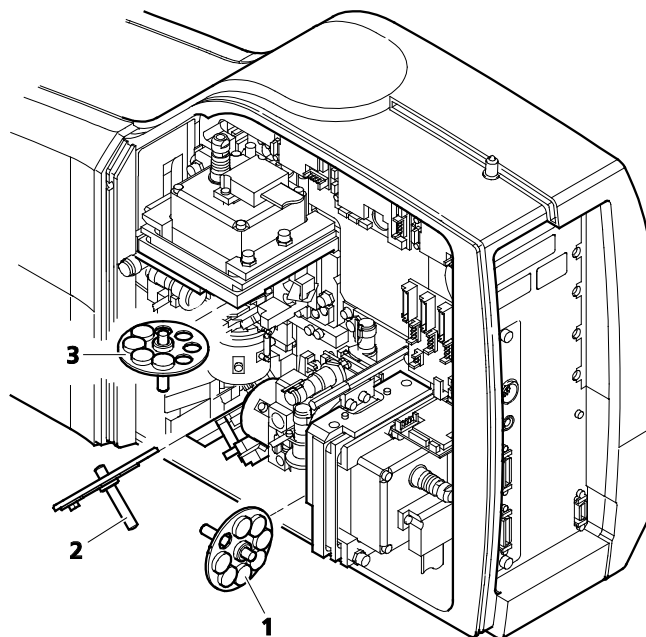

Fig. 5 Change-over of the filter-wheels
- Pull the filter-wheels carefully out of the appropriate guide well, see Fig. 5: